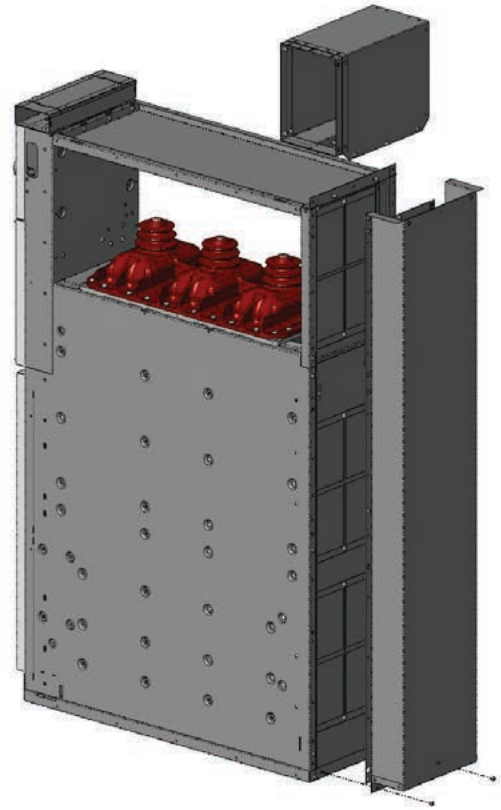

Figure 75. Additional screws for the bottom plate
c) Screw 3 additional screws (Torx M6x12) in the bottom plate as shown in Figure 75.